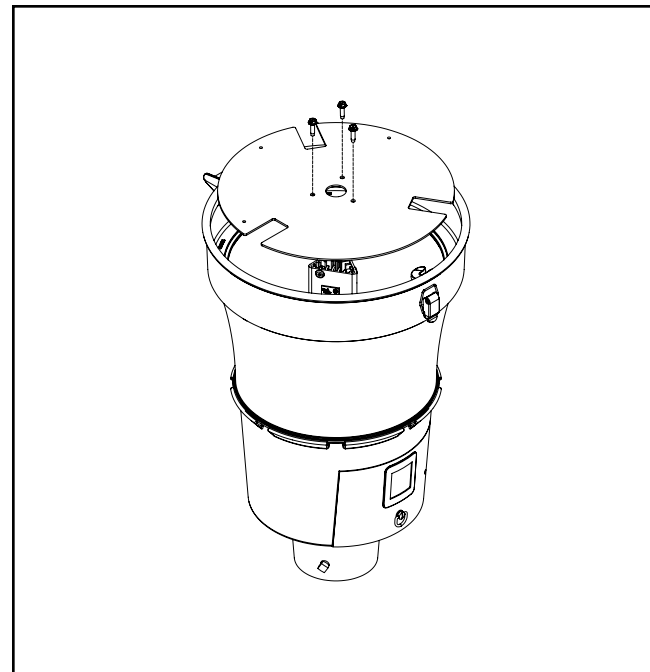

Figure 8.
- Unscrew three #10-24 screws located in the center and remove top cast with cover plate. (Figure 8)